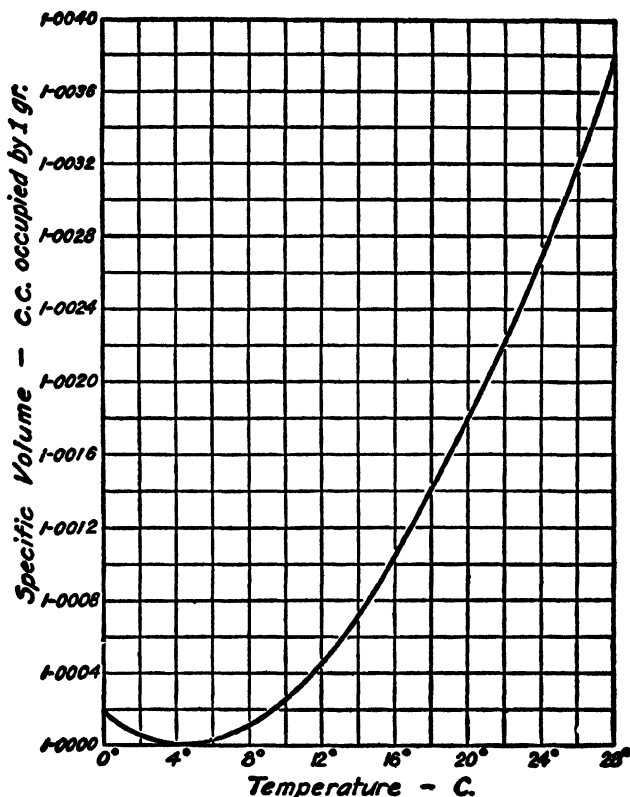

Fig. 7. Change of Volume of Water with Temperature.
a. In Exercise 6 c you determined the density of water by means of your burette. Is your result an exact value, or is it only a rough approximation? Refer to the temperature of the water recorded in your notes, and now compare your experimental result with that indicated by the curve* in Fig. 7. Suppose that your error in each reading of the meniscus in the burette might amount to 0.03 c.c., could that account for the whole difference between your value and the accepted one? What other errors might occur in the course of the experiment, and what are their respective magnitudes? Are you sure that your burette is correctly graduated?
in 1 c.c.) of benzene at 25°, multiply the specific gravity, as obtained above, by the density of water at that temperature (0.9971, see Fig. 7).